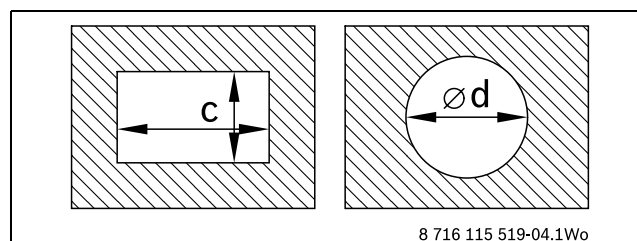

Fig. 3 Chimney sizes
- ▶ Ensure the cross section of the chimney complies with table 8 below and figure 3 opposite.